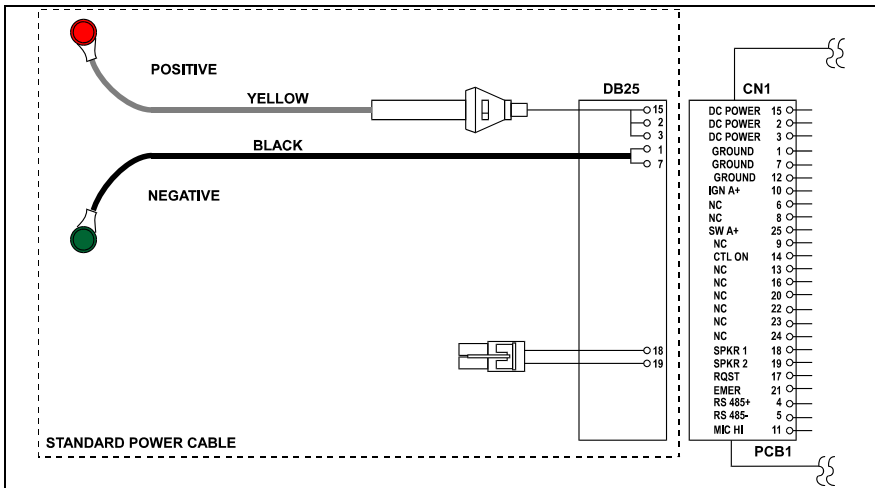

Figure 4-14: Standard Power Cable (RPM 113 2864/1)
The Standard Power Cable (RPM 113 2864/1) supplied with the charger, is approximately eight (8) feet long and consists of a DB-25 connector with two power leads and two speaker leads. The YELLOW (positive) lead includes a fuse holder and 5-ampere fuse located near the battery end. See Figure 4-14. The YELLOW positive lead must be connected to the vehicle's battery. The vehicle must have a negative-ground electrical system.